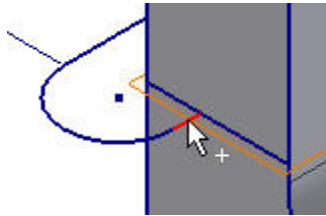

Figure 26
21. Use Project Geometry to project the short line of the previous sketch as a point on the new sketch plane as shown in Figure 26.